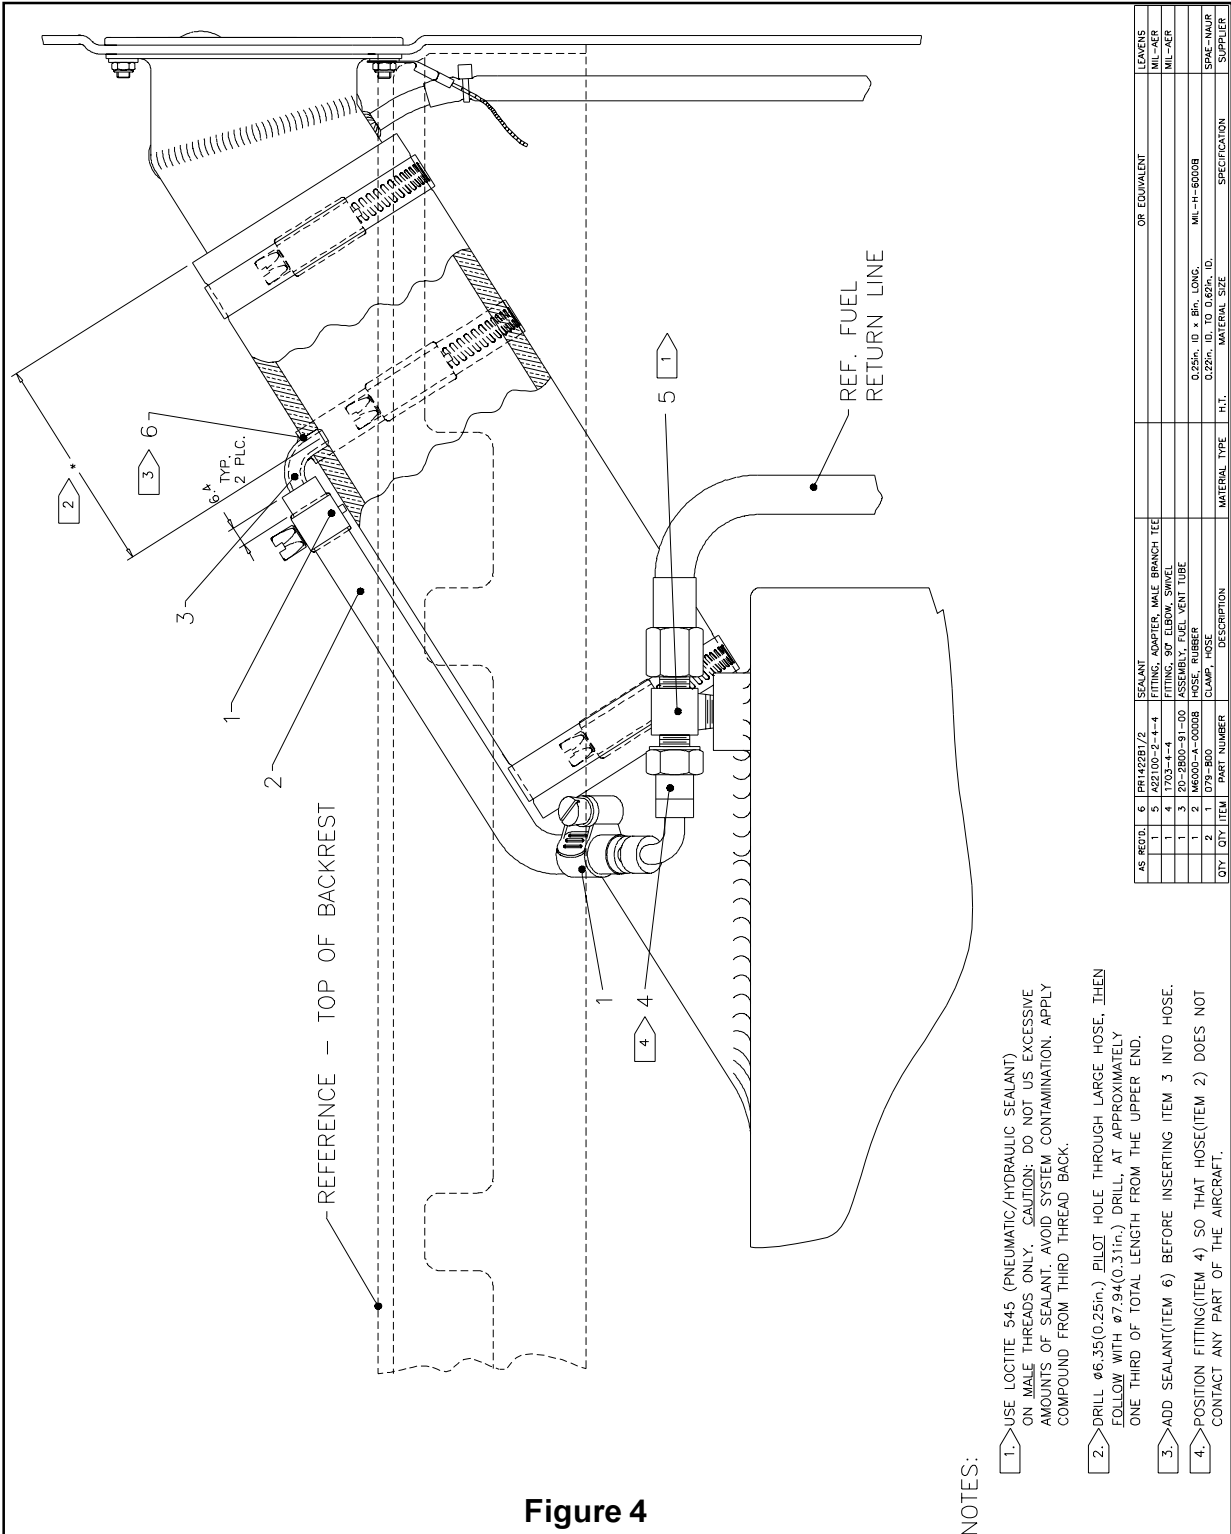

Figure 4
10.3.8 Drill a 1/4" hole in the rubber filler neck, located as shown in figure 4. Open up the hole with a oversize drill bit as described in figure 4, note 2.
10.3.12 Assemble the fittings, hoses and clamps as shown in figure 4.